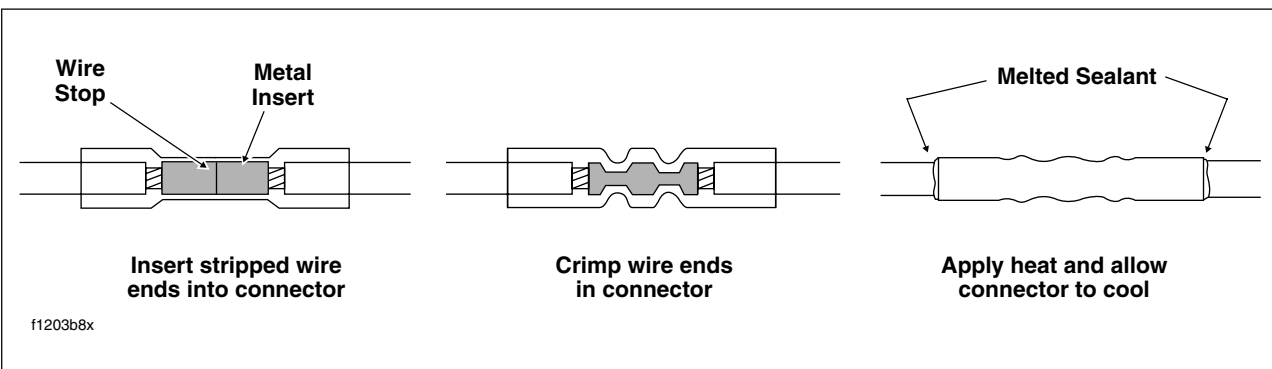

Figure B-41. Installing Sealed Butt Splice Connectors
- See Figure B-41. Feed the wire into the butt splice connector until the stripped end contacts the wire stop inside the metal insert.
- Using the UltraTorch UT-100 (HD-39969), Robinair Heat Gun (HD-25070) with heatshrink attachment (HD-41183) or other suitable radiant heating device, heat the crimped splice to encapsulate the butt splice connection. Apply heat from the center of the crimp out to each end until the meltable sealant exudes out both ends of the connector. See Figure B-41.